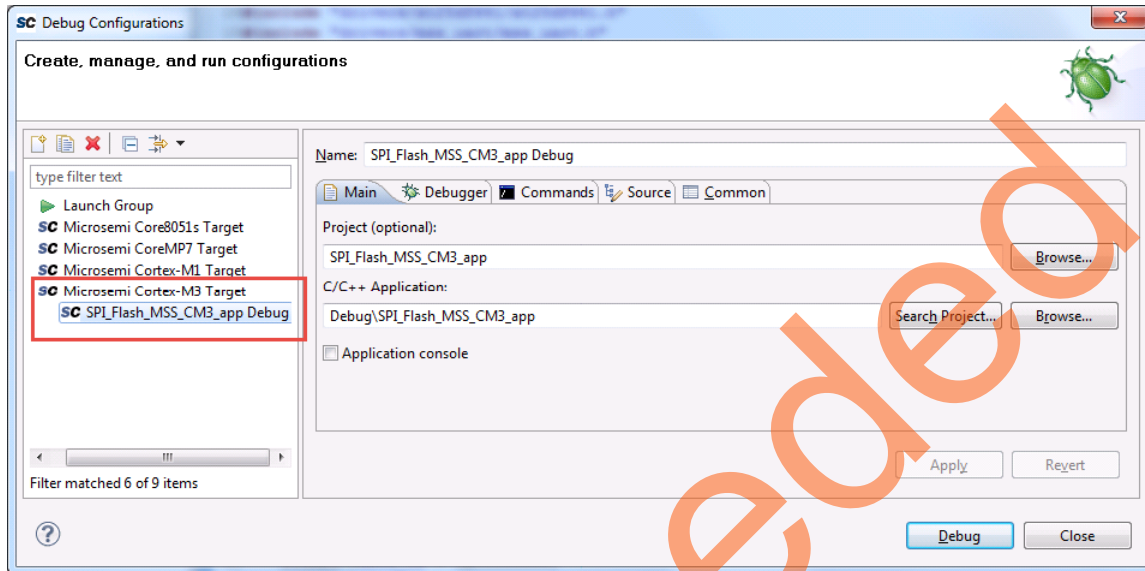

Figure 33 • Debug Configurations
1. Select **Debug Configurations** from the **Run** menu of the SoftConsole. The **Debug Configurations** dialog box is displayed. Double-click **Microsemi Cortex-M3 Target** to view the configurations, as shown in Figure 33.